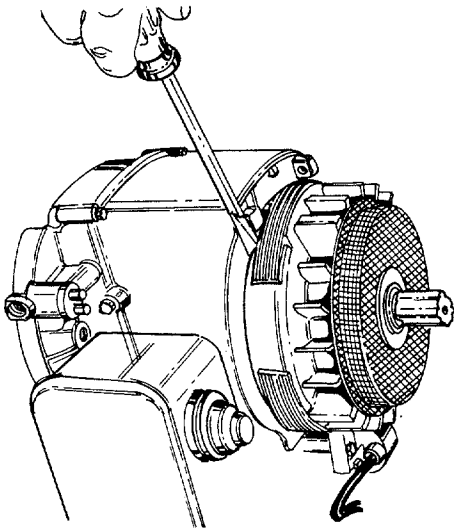

FIGURE 18.
- c. Insert a screwdriver into the notch on the flywheel to keep the crankshaft from turning as you remove the center bolt from the engine pulley. See figure 18.